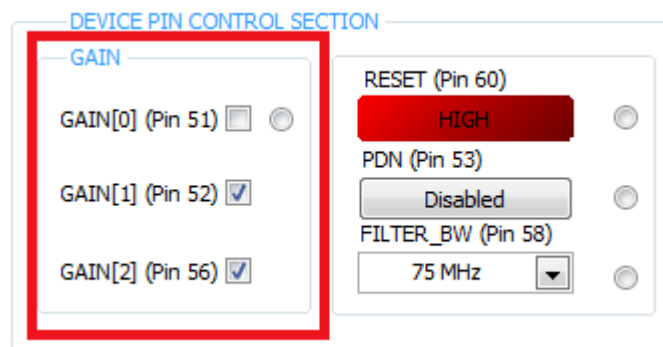

Figure 50. PGA5807 GUI Setup for PGA5807+ADS5296 Gain Test 4
- Return to the *PGA5807* tab and change the **GAIN[x]** values in the *DEVICE PIN CONTROL SECTION* to *18dB* as shown in Figure 50.